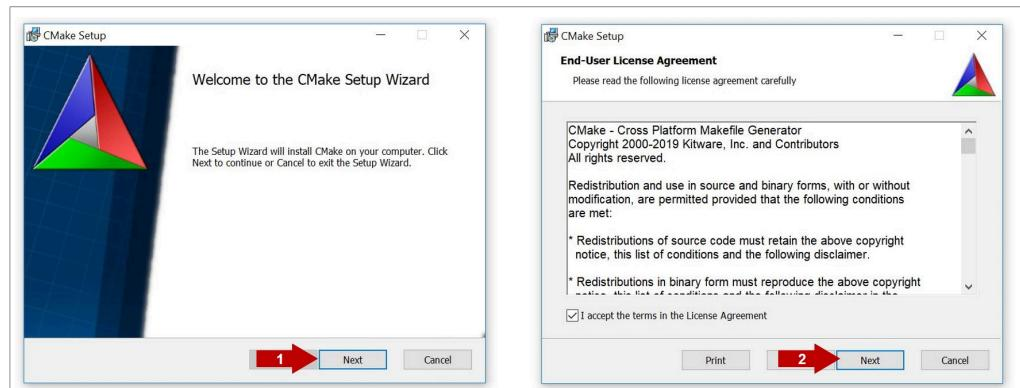

Figure 39. CMake installation wizard
5. The CMake installation wizard will open. Click (1) **Next** and (2) **accept** the End-User License Agreement as shown in Figure 39: